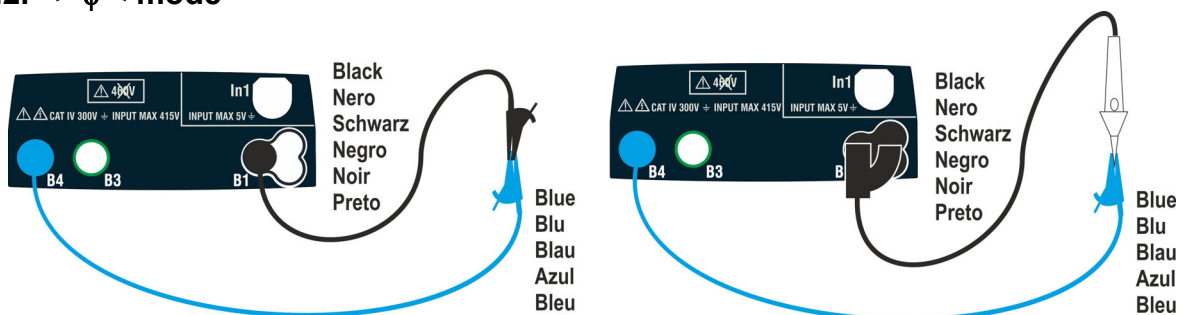

Fig. 10: Compensation of single cables and remote switch probe resistance
- Connect the alligator clips and/or test leads and/or remote switch probe to the conductor to be tested as indicated in Fig. 10